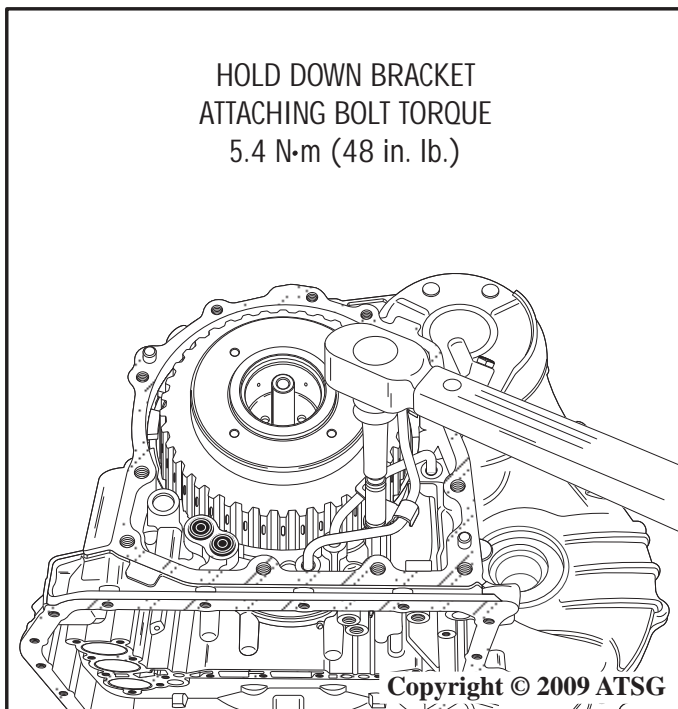

Figure 175
61. Using a torque wrench, torque the hold down bracket attaching bolt to **5.4 N·m (48 in. lb.)** as shown in Figure 175.